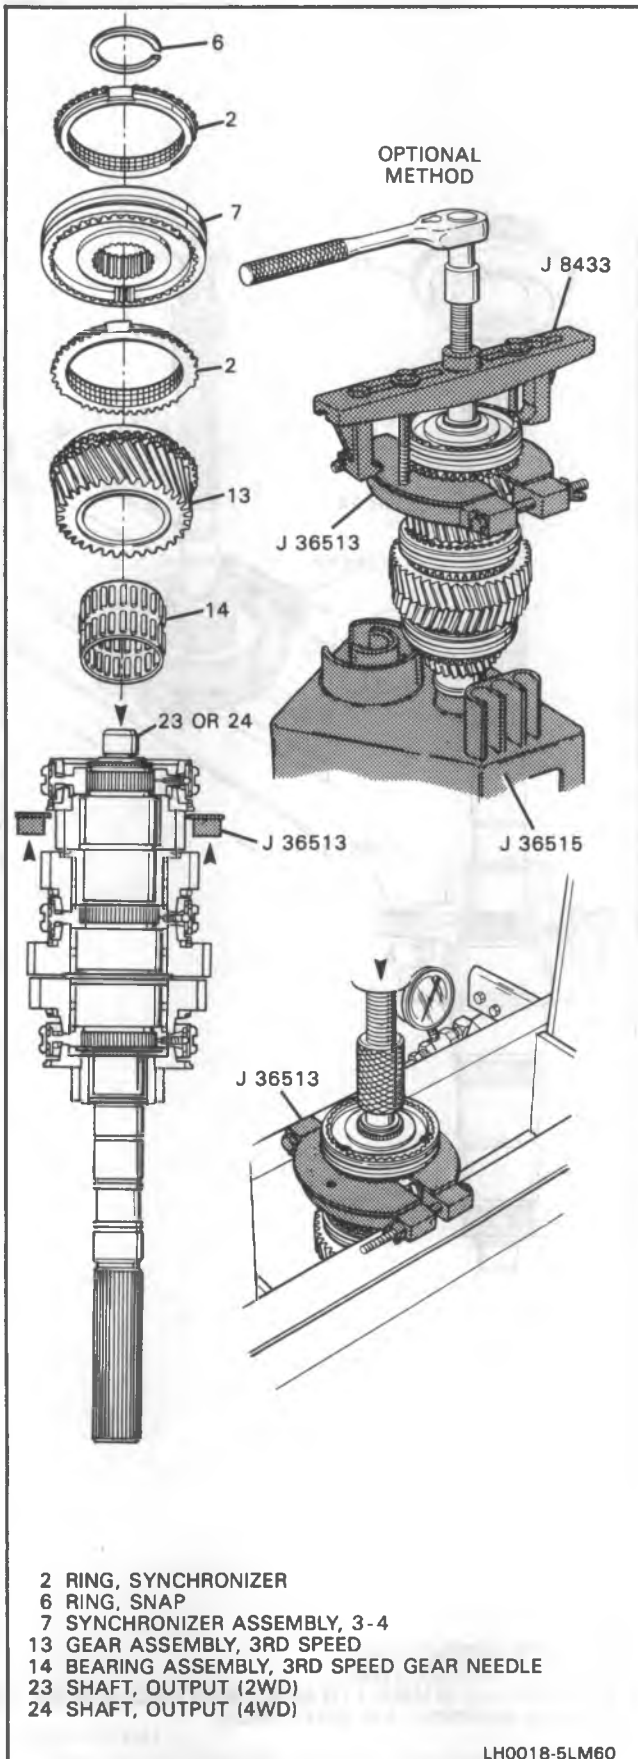
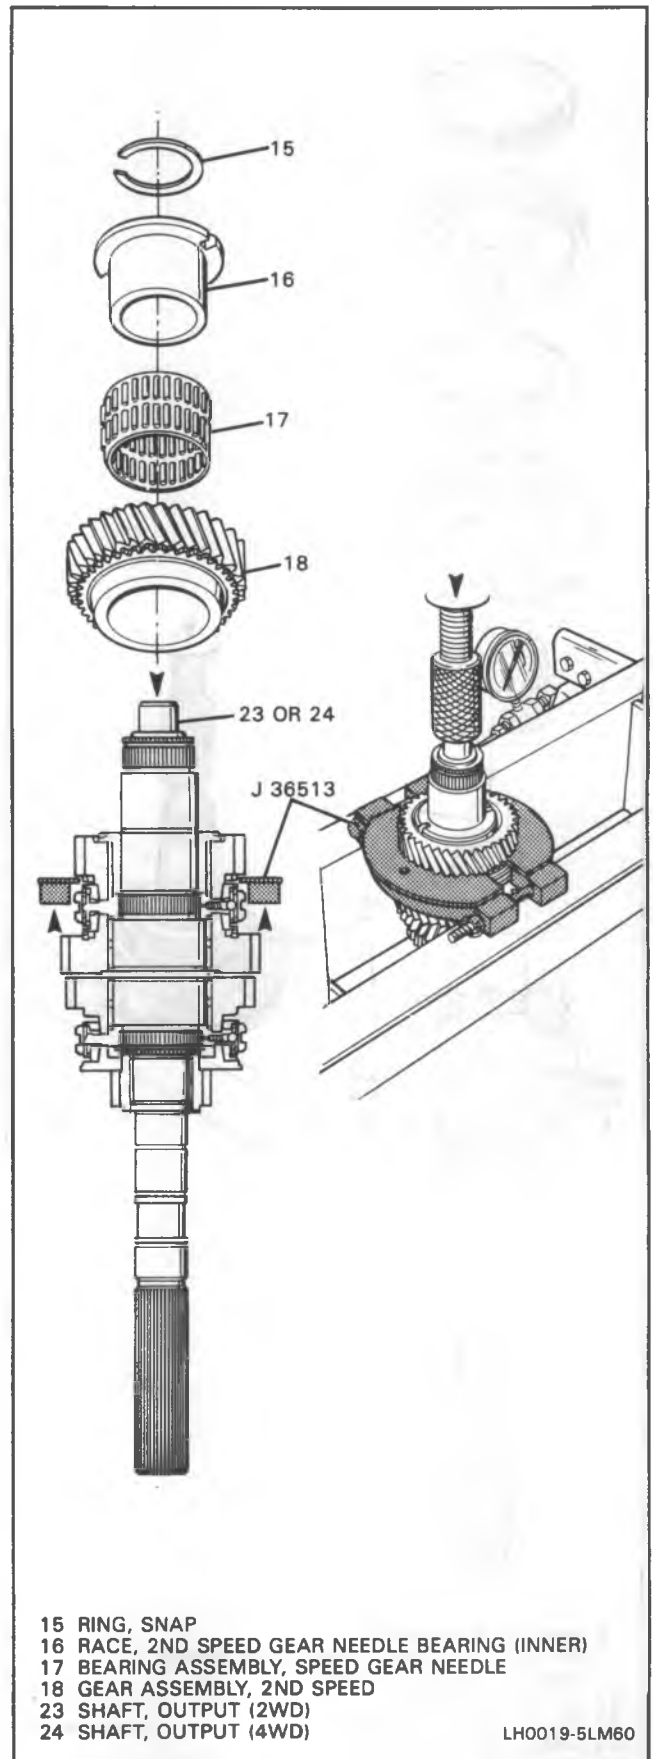
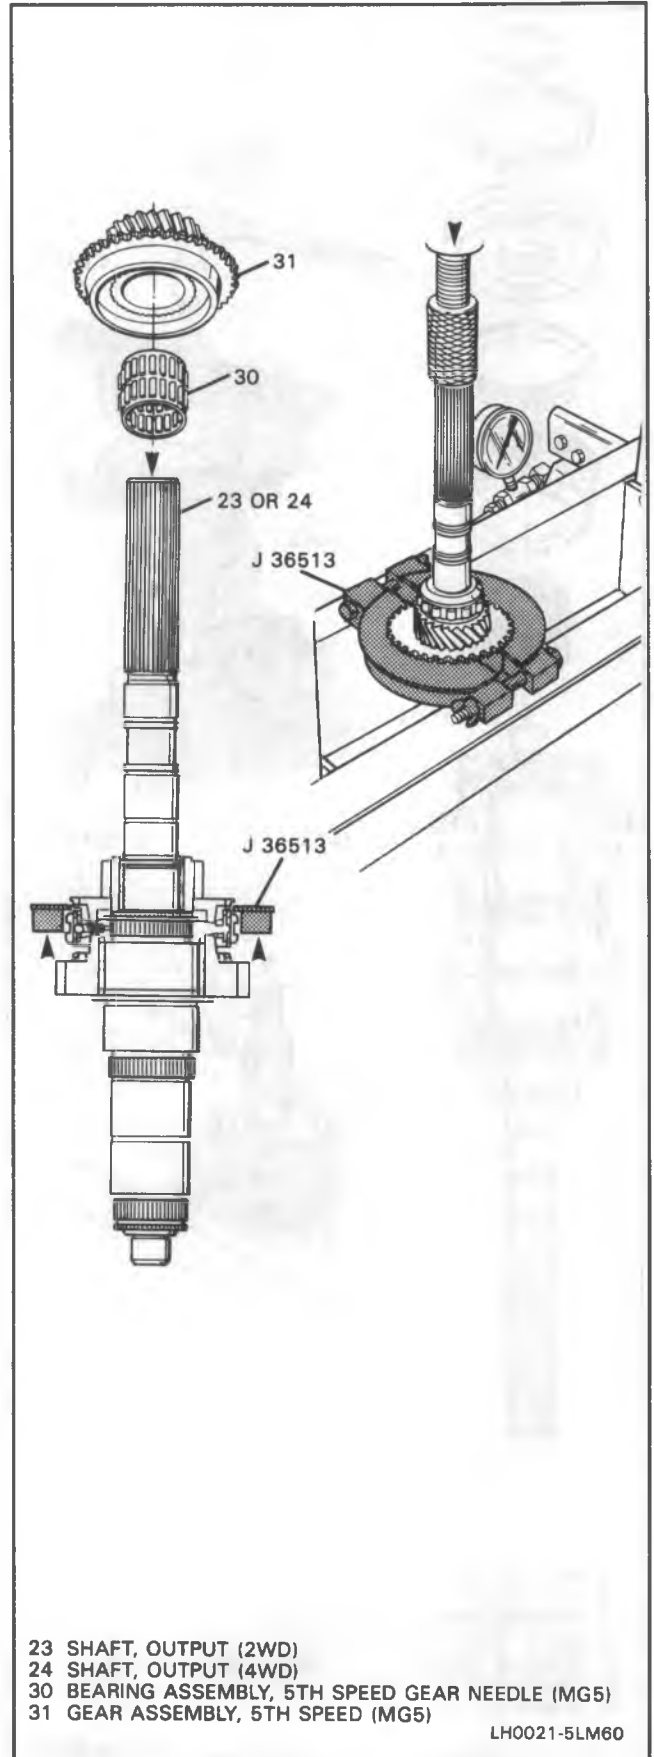
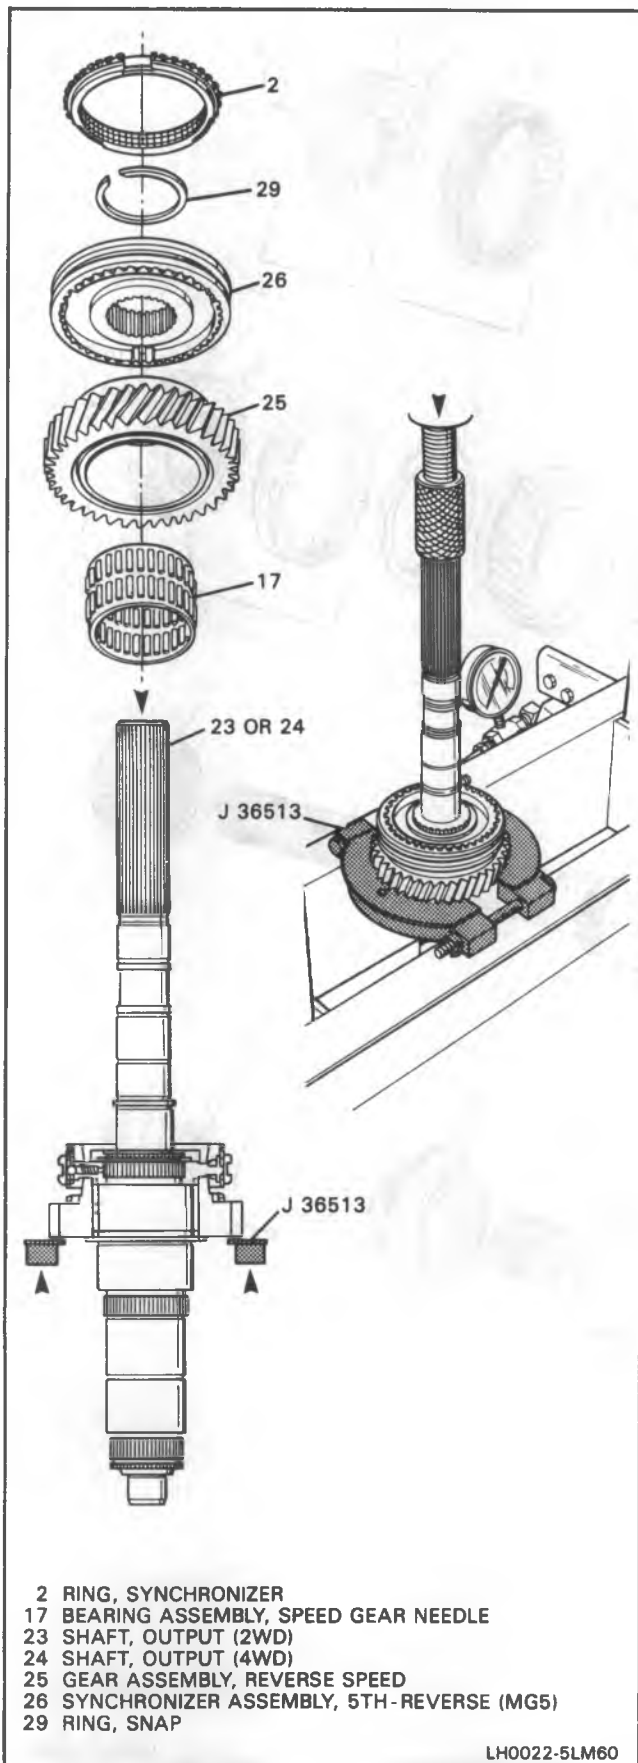

Figure 17 Removing 3-4 Gear Components
Figure 18 Removing 2nd Gear Components
Figure 20 Removing 5th Gear Components
Figure 21 Removing Reverse Gear Components
NOTICE: Optional method in Figure 17 can be used if the service press bed is not wide enough for the 1st speed to pass through. This method can be used to totally disassemble the main shaft, if necessary.
1. Snap ring (6) (Figure 17).
2. 3-4 synchronizer assembly (7), synchronizer rings (2) and third speed gear (13) using J 36513 and hydraulic press.
- Leave the synchronizer rings (2) to prevent the synchronizer detent balls (9) from popping out.
3. Third gear bearing (14).
4. Snap ring (15) (Figure 18).
5. Second speed gear assembly (18) and second speed gear bearing race (16) using J 36513 and hydraulic press.
6. Speed gear bearing assembly (17).
- Leave the synchronizer ring (2) on the 1-2 synchronizer assembly (19) to prevent the synchronizer detent balls (9) from popping out.
7. First speed gear (22) and 1-2 synchronizer assembly (19) using J 36513 and hydraulic press.
- Leave the synchronizer rings (2) on the 1-2 synchronizer assembly (19) to prevent the synchronizer detent balls (9) from popping out.
8. Speed gear bearing assembly (17).
9. Fifth speed gear (31) using J 36513 and hydraulic press (Figure 20).
10. Fifth speed gear bearing (30).
11. Snap ring (29) (Figure 21).
12. Reverse speed gear assembly (25) and 5th-reverse synchronizer assembly (26) using J 36513 and hydraulic press.
- Leave the synchronizer ring (2) on the 5th-reverse synchronizer assembly (26) to prevent the synchronizer detent balls (9) from popping out.
13. Speed gear bearing assembly (17).